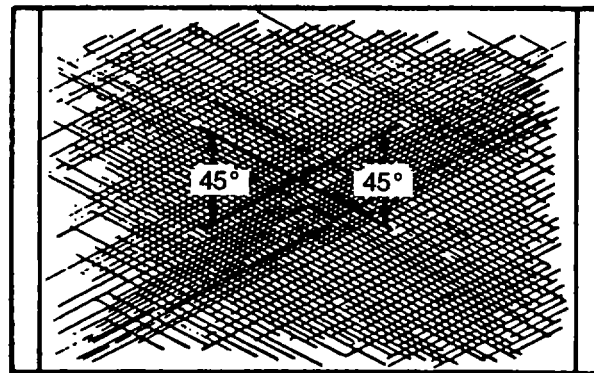

FIGURE 3-162. Deglazed 45 Degree Cross Hatch Pattern
- (c) Move deglazer in an up and down direction 10 to 12 complete strokes per cylinder. Move deglazer rapidly enough to obtain a 45 degree crosshatch pattern as shown in FIGURE 3-162.
- (4) Thoroughly clean cylinder liners after deglazing.